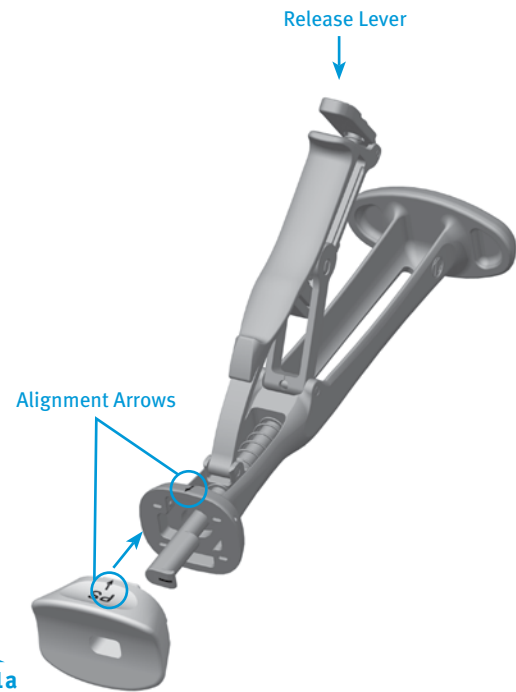

Fig. 31a
- Assemble the Femoral PS Impactor Pad to the Femoral Inserter/Extractor. Hold the Femoral Inserter/Extractor, with the handle in the open position and insert the Femoral PS Impactor Pad, aligning the "PS" on the Femoral PS Impactor Pad with the arrow on the Femoral Inserter/Extractor (Fig. 31a). The Femoral PS Impactor Pad is keyed, so the Femoral PS Impactor Pad may have to be rotated while placing and aligning the Femoral PS Impactor Pad onto the Femoral Inserter/Extractor.